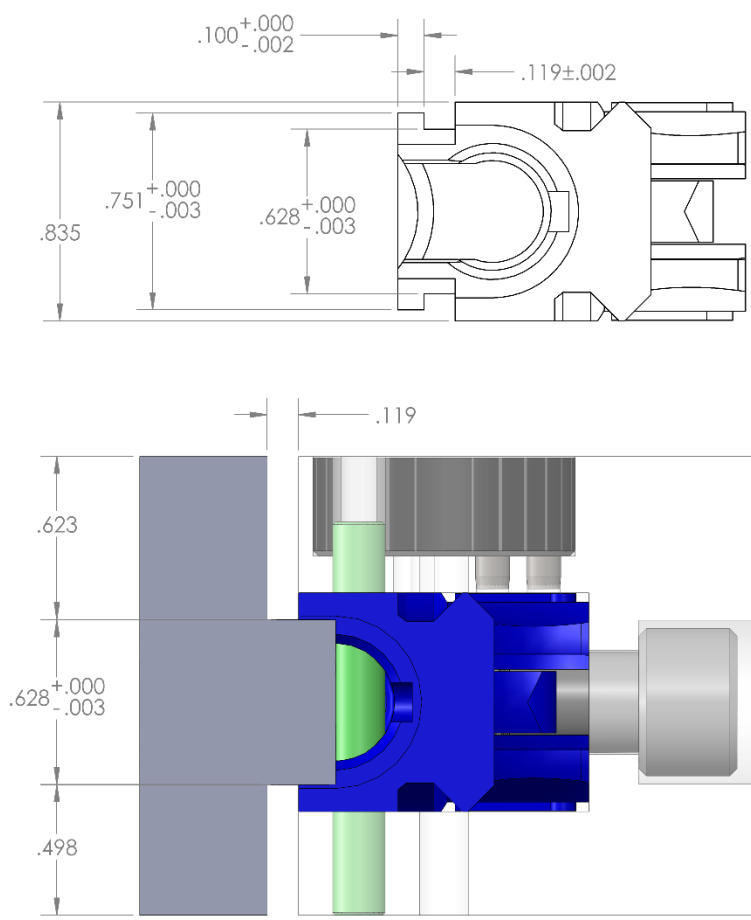

Figure 3. Slide Rail Cut Dimensions.
- 4 Next, place the Rudius Jig Assembly into your mill with the drill plate and slot facing up. Use an end mill to cut the slide cuts. See Figure 3 for dimensions.